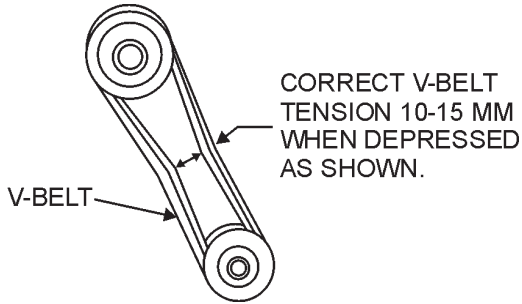

Figure 13. V-Belt Tension
1. The V-belt tension is proper if the V-belt bends 10 to 15 mm (Figure 13) when depressed with finger midway between the clutch and vibration pulley shafts.